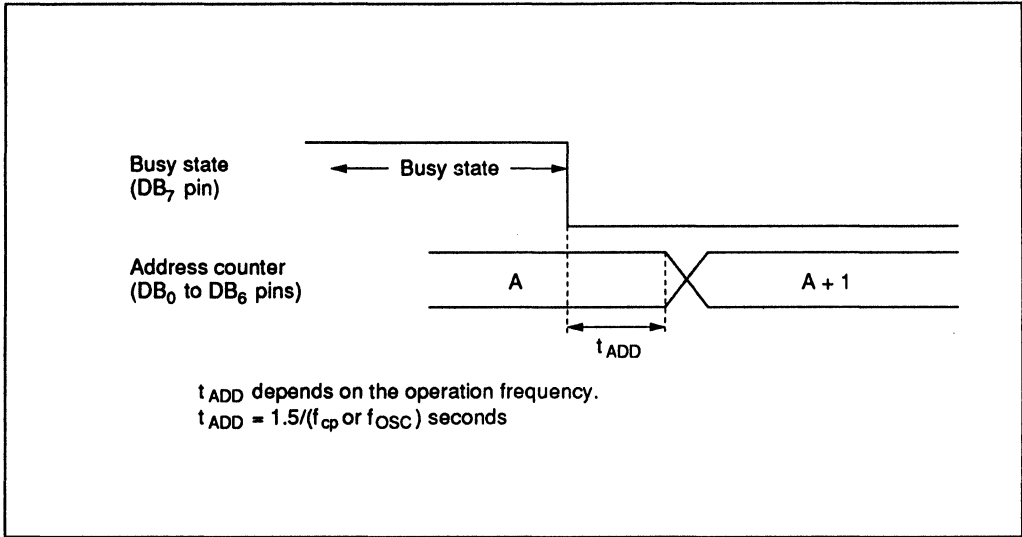

Figure 18 Address Counter Update
*After execution of the CG RAM/DD RAM data write or read instruction, the RAM address counter is incremented or decremented by 1. The RAM address counter is updated after the busy flag turns off. In figure 18, t_{ADD} is the time elapsed after the busy flag turns off until the address counter is updated.